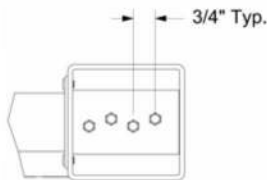

Fig. 5 Securing Rail in Gate Pocket
- Square Gate and Secure rails in Gate Pocket:** Square the gate using the carpenters square and secure the top and bottom rails in the gate pockets using four 1" self-tapping screws provided. The pattern should look similar to Fig. 5.
- Square Gate and Secure rails in Gate Pocket:** Square the gate using the carpenter's square and secure the top and bottom rails in the gate pockets using four 1" self-tapping screws provided. The pattern should look similar to Fig. 5 on Page 2.
- Square Gate and Secure rails in Gate Pocket:** Square the gate using the carpenter's square and secure the top and bottom rails in the gate pockets using four 1" self-tapping screws provided. The pattern should look similar to Fig. 5.